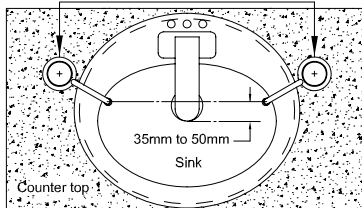

Fig. 2A
- Choose a suitable location (Fig.2A), cut and paste installation template (Fig.2B) on the drilling location. (Ensure clearance above and below the counter as shown in Fig. 3).